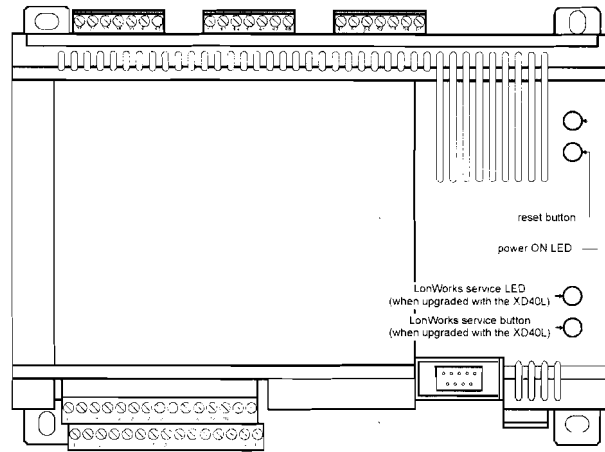

Fig. 3. The XL40A2
- eight analog inputs, four analog outputs, and fourteen digital inputs all arranged in a single, low-voltage, double-decker terminal block located at the left side of the front of the housing (see Fig. 3), and also